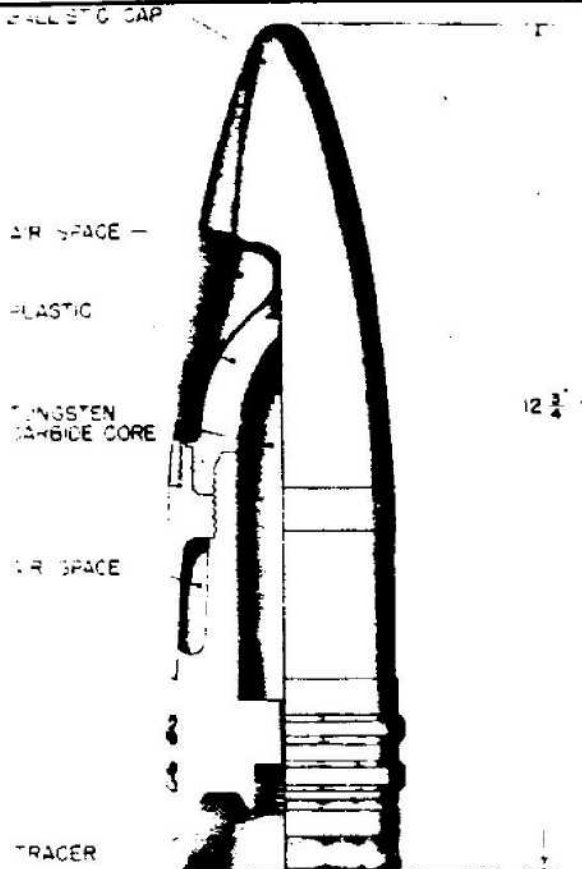

Figure 427—A. P. Projectile with Tungsten Carbide Core (Type 40), 88-mm, 8.8-cm Pzgr. 40
**GERMAN NOMENCLATURE:** 8.8-cm Pzgr. 40 (Panzergranate 40). (See Fig. 427.)